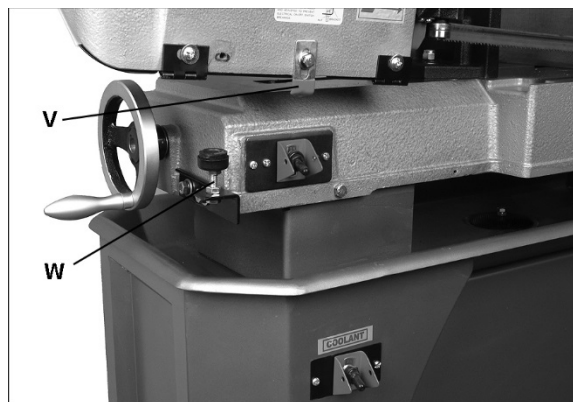

Figure 8-15: Shut-Off Adjustment
- If saw completes cut but blade continues moving, adjust trip tab (V, Figure 8-15) downward.
- If blade stops before cut is complete, adjust trip tab (V) upward.
- If blade stops descending and continues running without completing the cut, turn stop bolt (W) down.